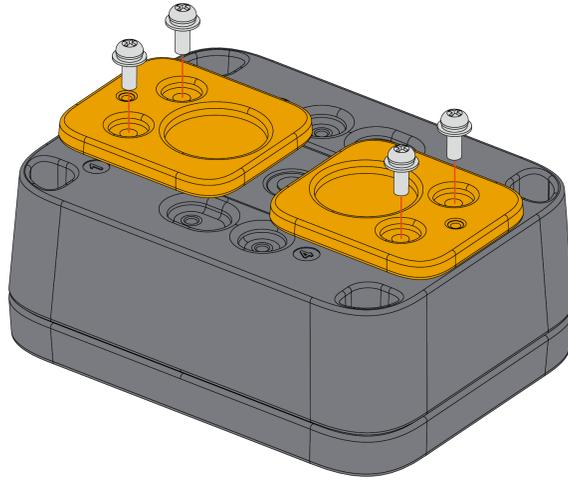

Figure 27: Fixing the magnet mount on the enclosure
2. Fix the magnet mount marked with the letter **G** on the WisBlock Unify Enclosure using one (1) to two (2) pieces of M3*8 mm Head screw with washer. Place it on fixed positions number **1 & 3** of the enclosure as shown in **Figure 27**.